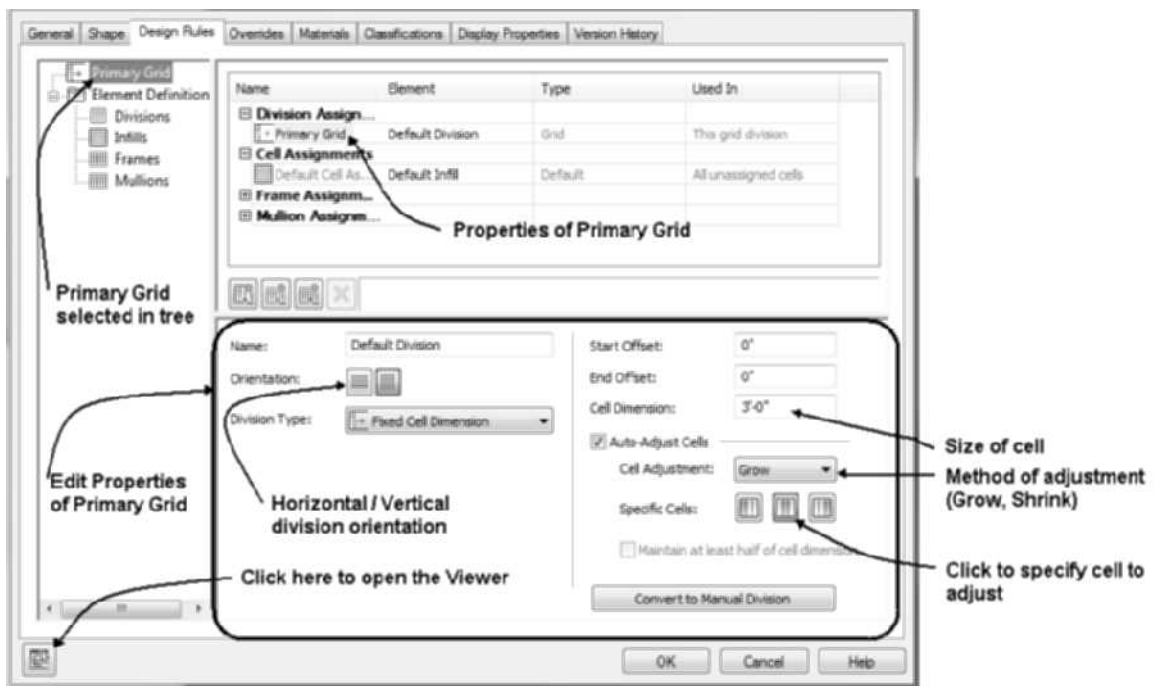

FIGURE 6.8 Design Rules tab
5. Choose the Design Rules tab. If you select an element in the tree of the left pane, its properties will be displayed in the upper-right pane and can be edited in the lower-right pane. Choose Primary Grid in the left pane as shown in Figure 6.8. The door/window assembly is developed from a grid; the primary grid has a vertical orientation as shown in lower pane.
as shown in Figure 6.8. The Orientation toggles shown in Figure 6.8 allow you to change the grid orientation to horizontal or vertical. The settings for the Default Division with the Fixed Cell Dimension provide a grid 3'-0" [900] cells, allowing the middle grid division to adjust.